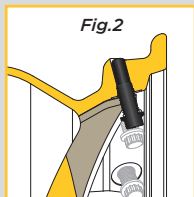

Fig.2
- 2** Carefully start the threads of each pin by hand until they are flush with the mounting surface of the wheel. These will simply act as a plug during the tire mounting process. Ensure that the pins are not protruding above the surface of the wheel bead hump. [Figure 2]